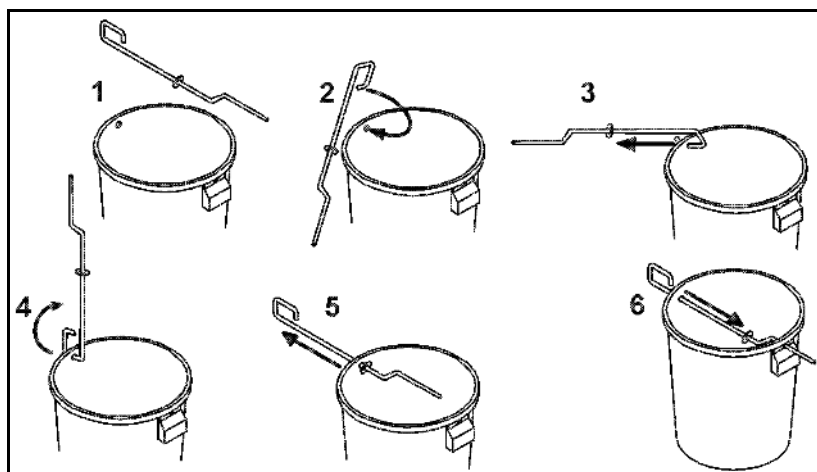

Fig. 40
Two different scales, designed so as to make it impossible to confuse them, are arranged on each spreading disc for precision setting of the individual spreading vane positions (Fig. 40/1 and Fig. 40/2).
- The shorter spreading vanes (Fig. 40/3) are assigned the scale (Fig. 40/1) with values from 5 to 28; the longer spreading vanes (Fig. 40/4) are assigned the scale (Fig. 40/2) with the values from 35 to 55.
- For the short spreading vane (Fig. 40/3), read off the set value on the read-off edge (Fig. 40/5).
- For the long spreading vane (Fig. 40/4), read off the set value on the read-off edge (Fig. 40/6).
- Swivelling the spreading vanes to a higher scale value (Fig. 40/1 or Fig. 40/2) increases the working width.